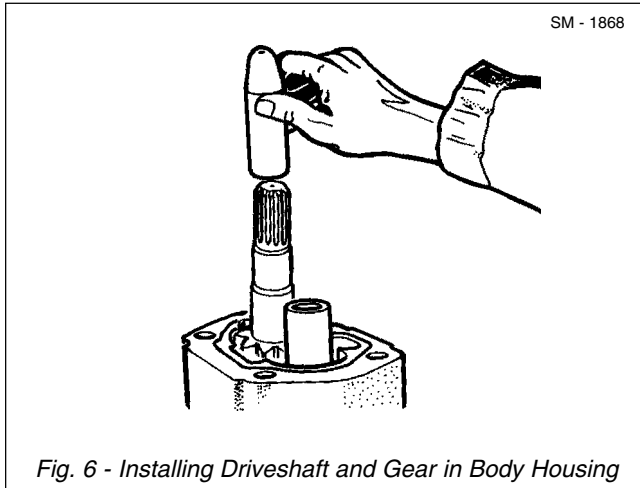

Fig. 6 - Installing Driveshaft and Gear in Body Housing
9. Fit ring seal (10) to body housing (1) machined face. Ring seal (10) to be fitted dry.
10. Coat special sleeve tool, which can be fabricated as shown in Fig. 8, with grease and install driveshaft and gear (11) in the sleeve tool, as shown in Fig. 6.